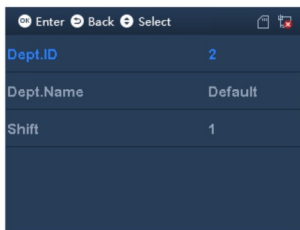

Figure 2-8
Select User>New Department, click ③. See Figure 2-8.